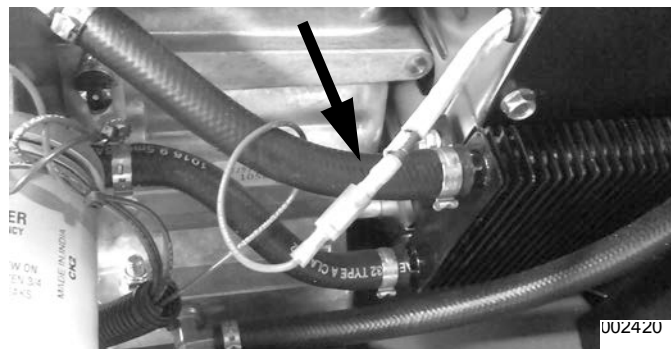
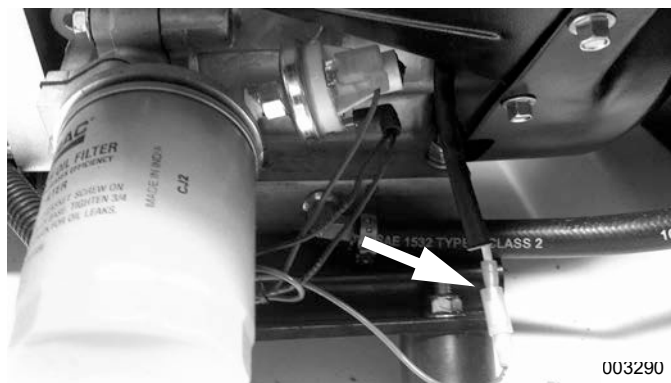

Figure 3-67. Wire 18 Connection – V-Twin Units
Figure 3-68. Wire 18 Connection – Single Cylinder Units
1. See Figure 3-67 and Figure 3-68. Disconnect Wire 18.
1. See **Figure 3-67** and **Figure 3-68**. Disconnect Wire 18 at the bullet connector.
- See Figure 3-67 and Figure 3-68. Disconnect Wire 18 at the bullet connector.